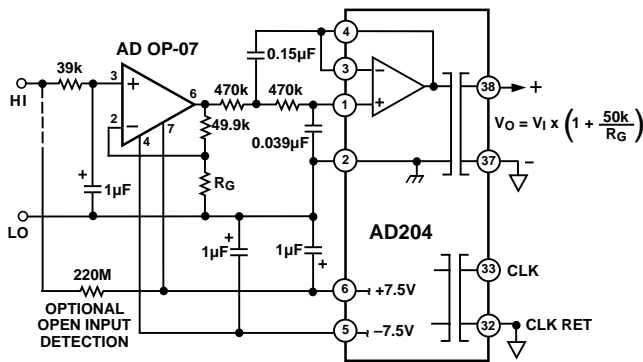

Figure 17. Input Amplifier & Filter for Sensor Signals
**Low-Level Sensor Inputs.** In applications where the output of low-level sensors such as thermocouples must be isolated, a low drift input amplifier can be used with an AD204, as shown in Figure 17. A three-pole active filter is included in the design to get normal-mode rejection of frequencies above a few Hz and to provide enhanced common-mode rejection at 60 Hz. If offset adjustment is needed, it is best done at the trim pins of the OP07 itself; gain adjustment can be done at the feedback resistor.